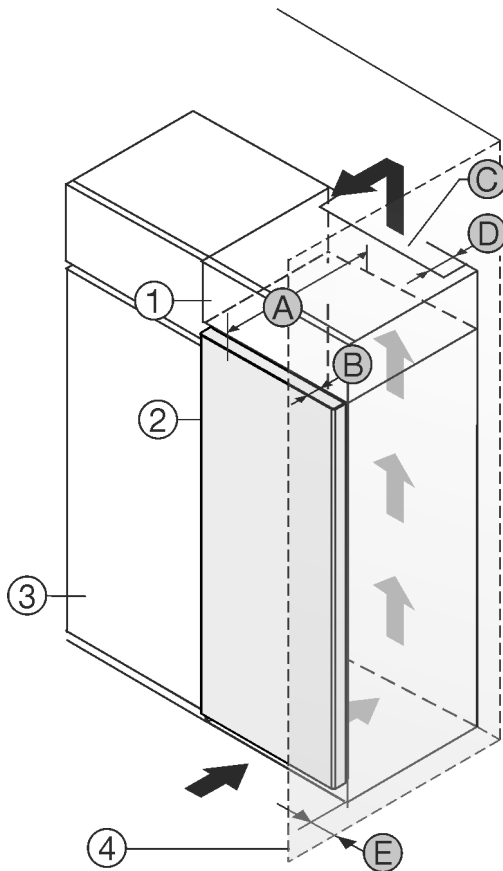

Fig. 1
- (1) Top cupboard\*
- (2) Appliance\*
- (3) Kitchen cabinet\*
- (4) Wall\*
- (A) Appliance depth\*
- (B) Door depth\*
- (C) Ventilation cross-section\*
- (D) Distance to the rear of the appliance\*
- (E) Distance to the side of the appliance\*
Set up the appliance directly next to the kitchen cabinet Fig. 1 (3).\*
There must be a ventilation shaft at the depth Fig. 1 (D) of the back of the top cupboard over the entire width of the top cupboard.\*
The cross section of the ventilation gap Fig. 1 (C) must be maintained below the ceiling.\*
If the appliance is installed with the hinges next to a wall Fig. 1 (4), the distance between the appliance and the wall must be at least 13 mm (0.51 in).\*
In order to be able to fully open the door, the appliance must protrude by the depth Fig. 1 (B) of the door from the front of the kitchen cabinet. Regardless of the depth of the kitchen cabinets Fig. 1 (3) and use of wall spaces, the appliance can protrude further.\*